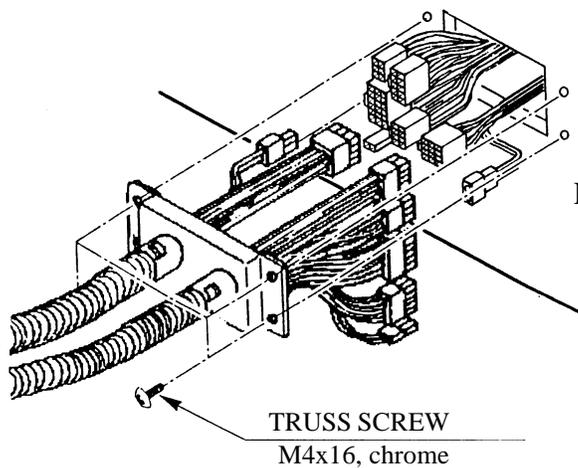
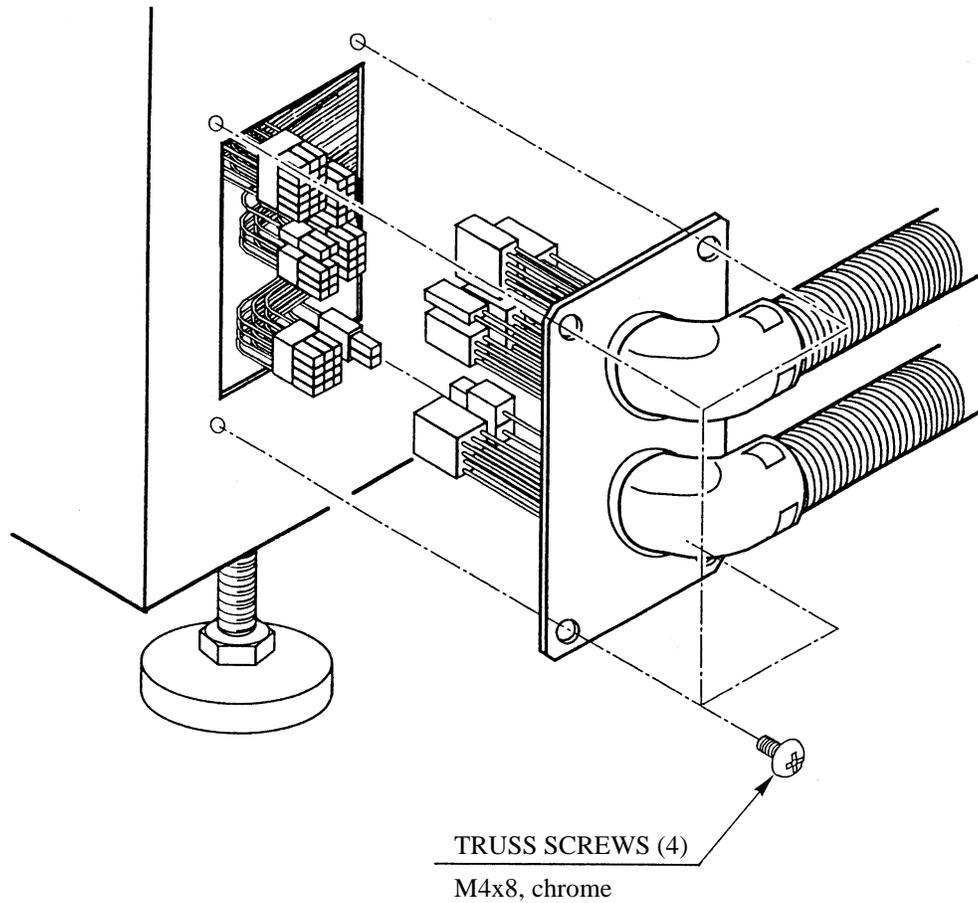

Fig. 4.2b
Fig. 4.2c
- ① The ASSY TUBE's box side is to the Front Cabinet. Connect all of the wiring connectors coming from the Front Cabinet and the box side wiring connectors. Be sure to connect the connectors of identical color and number of pins.
- ② Secure the box to the Front Cabinet with 4 screws. at this time, be very careful so that wires are not caught and damaged. (Fig. 4.2b)
- ③ Connect all of the Rear Cabinet side Wiring Connectors and ASSY Tube Wiring Connectors. Ensure that connectors of identical color and number of pins are connected with each other.
- ④ By using the 4 screws, secure the ASSY Tube Plate parts to the Rear Cabinet. At this time, use care so that wirings are not caught and damaged. (Fig. 4.2c)